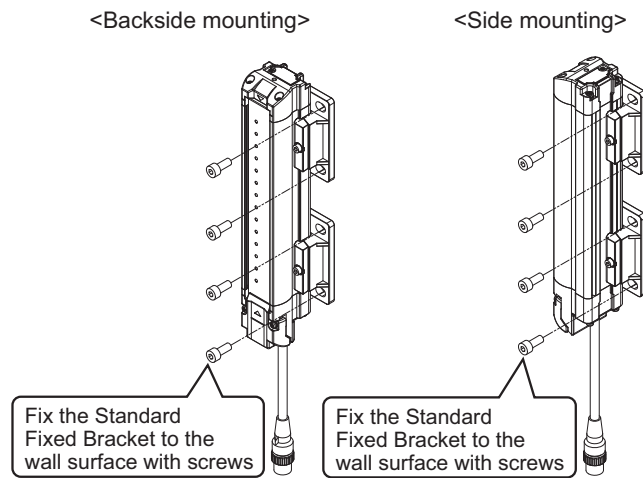

Fig. 4
4. Securely tighten the screws to fix the Standard Fixed Bracket to the mounting position of the wall surface. (Fig. 4)